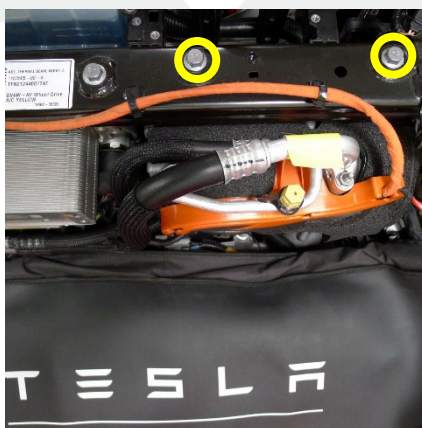

Figure 11
13. With the help of an assistant to support the weight of the A/C compressor, remove the bolts (x2) that attach the A/C compressor bracket to the shock tower brace (Figure 11).